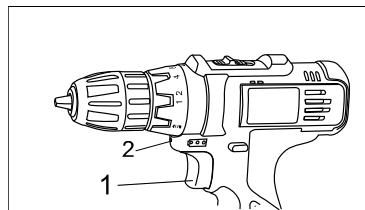

Fig 7
The built-in backlight (2) turns on automatically when the power button (1) (Fig. 7) is pressed and turns off automatically when it is released.